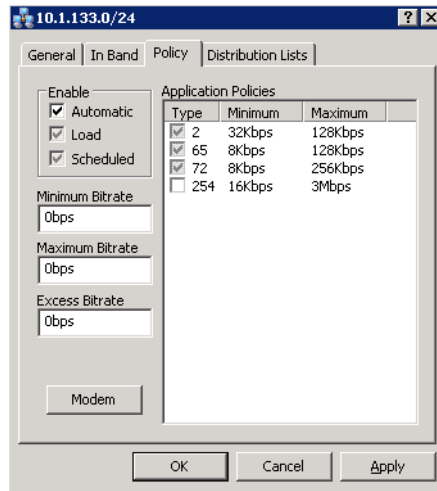

Figure 3-29 Properties Policy Tab
- The **Policy** tab (figure 3-29) allows the operator to modify policy settings for this remote site that are inherited from the global Policy tab (see the section “InBand Manager” on page 5-18).